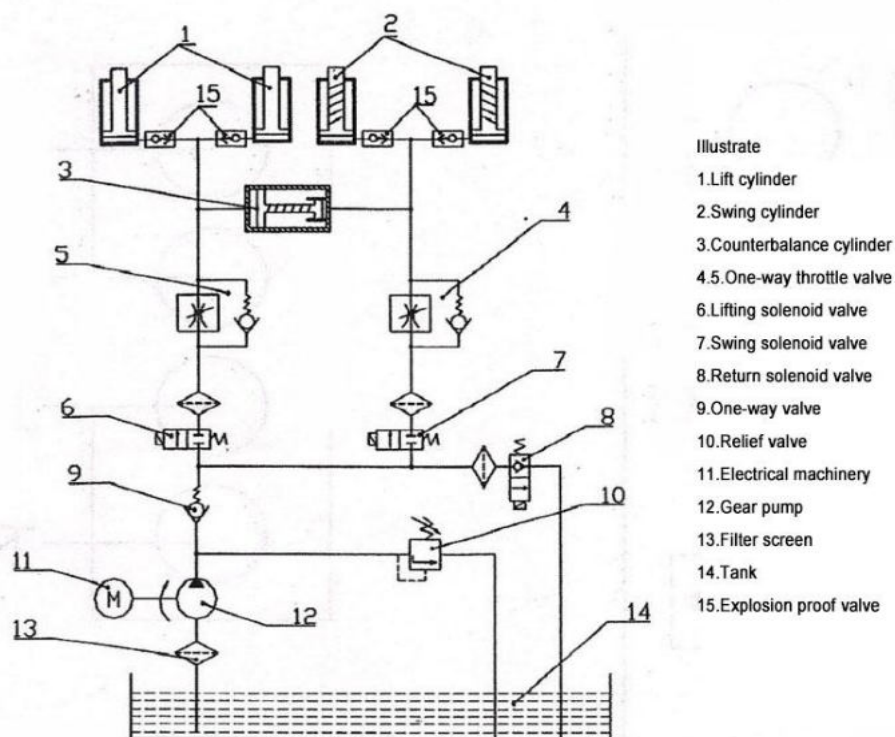
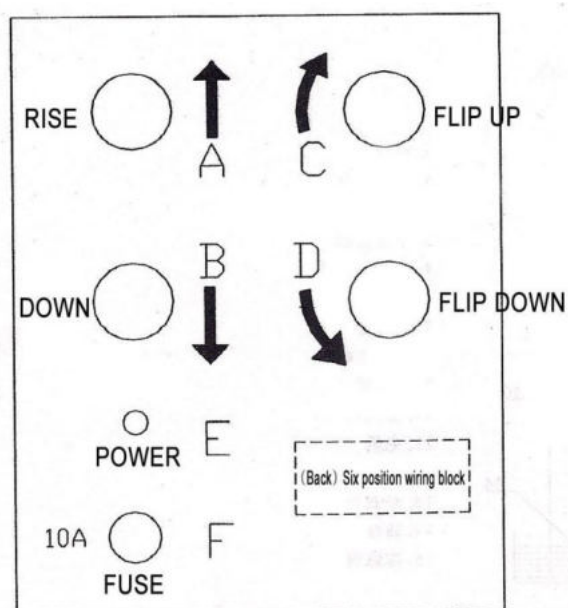
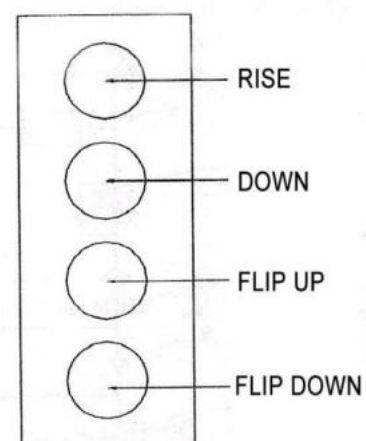

Figure 2-1 Hydraulic schematic diagram
Figure 2-3 Electrical control box layout diagram
Figure 2-4 Handheld button schematic diagram
tailboard is lifted and lowered by two lifting oil cylinders, flipped up and down by two flipping plate oil cylinders, and slowly tilted towards the ground when the plate root touches the ground by one balance oil cylinder, until it is tightly against the ground; The electric control box consists of a box body, operation buttons, power switch, 10A fuse tube, etc. (see Figure 2-3): the power unit consists of an oil pump, DC motor, motor starter, overflow valve, one-way valve, unloading valve, electromagnetic directional valve, filter screen, oil tank, etc. (Figure 2-1).
2.1 Hydraulic Schematic Diagram(see Figure2-1)
2.3 Electrical Control Box(see Figure 2-3) and Handheld Press Schematic Diagram (see Figure 2-4)
Open the electrical control box door and you will see the control buttons and their markings as shown in Figure 2-3. This manual takes the operation of the electrical control box as an example. The four position handheld buttons installed inside the carriage are marked with "Up", "Down", "Flip Up", and "Flip Down". They have the same function and operation method as the corresponding buttons on the electrical control box.